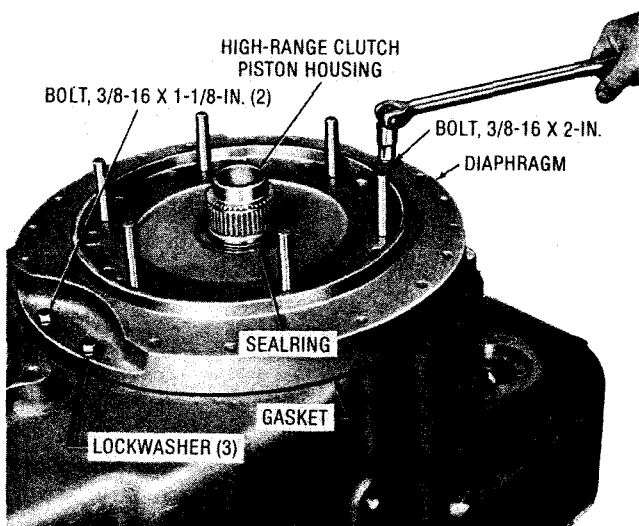

Fig. 7-26. Installing diaphragm bolts (TTB)
(1) Install the gasket onto the diaphragm (as assembled in para 6-16) and install the diaphragm onto the transmission housing (fig. 7-26). Install two 3/8-16 x 1-1/8-inch bolts, one 3/8-16 x 2-inch bolt, and three lockwashers to retain the diaphragm. Tighten the bolts to 26-32 lb ft (35-43 N·m).